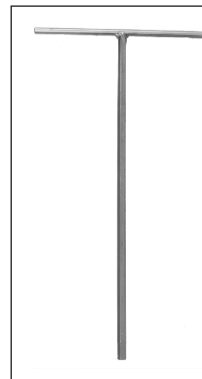

Fig. 1.11A
7. Tool fork cylinder holder - N931 011 0 (Fig. 1.11A)